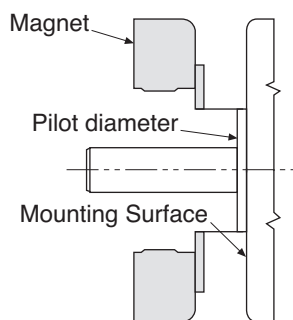

Figure 1
1. A pilot diameter on the mounting surface is essential to hold the magnet within the required tolerances. (See Figure 1.)